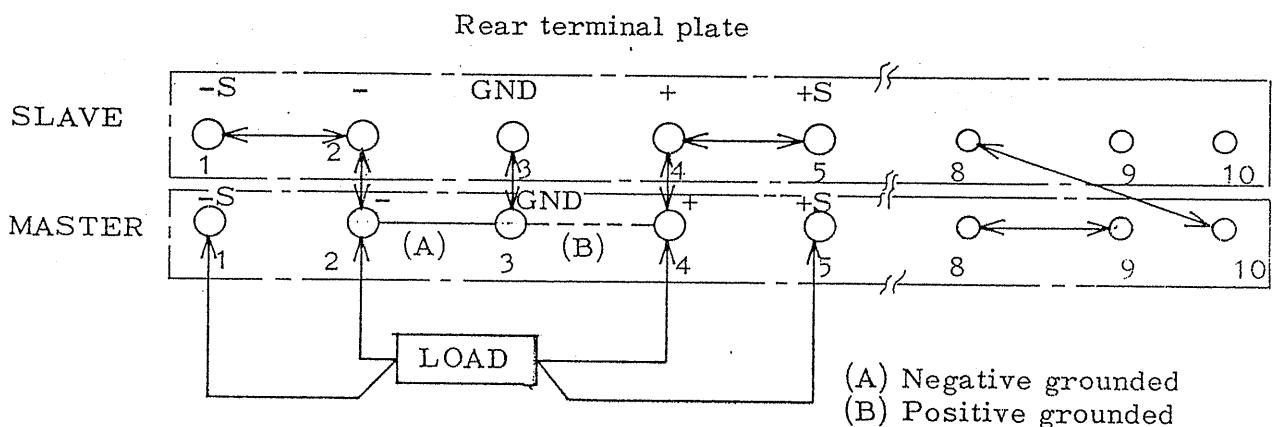

Fig. 3-9 Using sampling terminals in one-control parallel operation
As the voltage-current characteristics in parallel connection in Fig. 3-9 show, the output voltage in parallel operation remains constant until one Model PAD 500-1.2 (A) with a higher output voltage is overloaded. When one Model PAD 500-1.2 is changed over to the constant current mode, the output voltage decreases until it reaches the value preset by the other Model PAD 500-1.2 (B) whose output terminals are changed over from an inverse voltage to a normal one, causing the constant voltage mode. Thus, load fluctuation causes the output voltage to fluctuate by the preset output voltage difference ΔV between the two units, and ripple characteristics are deteriorated.
(Connection is shown in Fig. 3-9.)